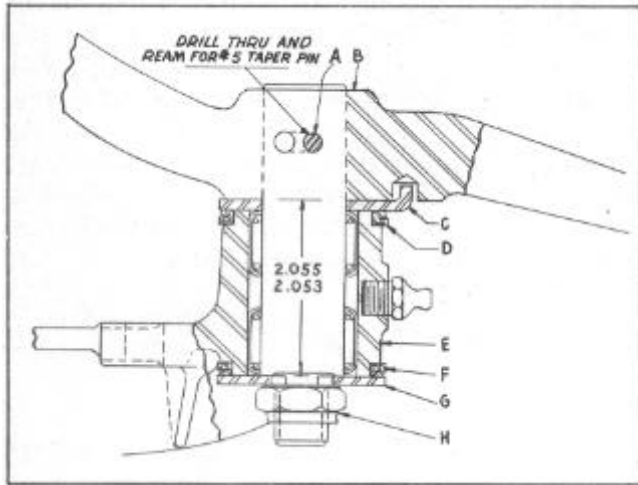

FIGURE 1
2. If necessary to replace the steering arm pivot shaft, the new shaft should be pressed in place maintaining the 2.053" to 2.055" dimension as shown in Figure 1 before drilling the hole for the No. 5 taper pin (A).
3. Old type all rubber seal Part No. 300597 has been superseded with Part No. 302553 seals (F) and (D). The later seal is a steel washer bonded to synthetic rubber. A separate retainer is not used with the new seal. The new seal became effective in production after car Serial No. 49173777.
4. When installing the seals the rubber lip faces to the casting as shown in cross-section Figure 1 and the spacers (C) and (G) positioned as shown.
5. The center steering arm pivot bolt nut (H) should be tightened to 50-60 foot lbs.